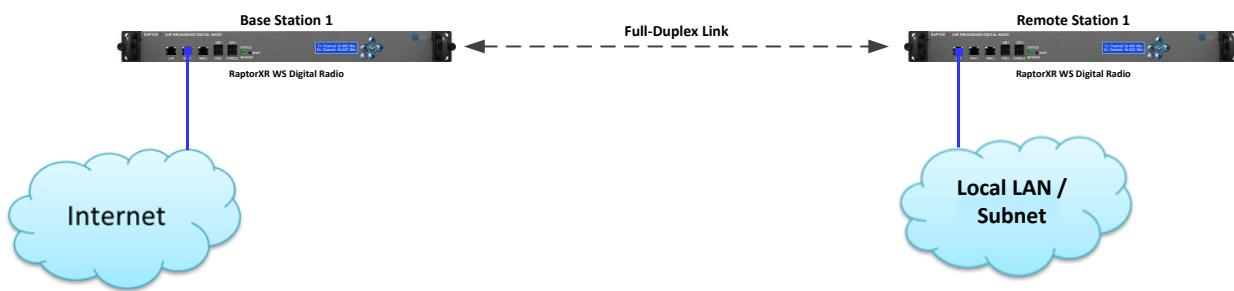
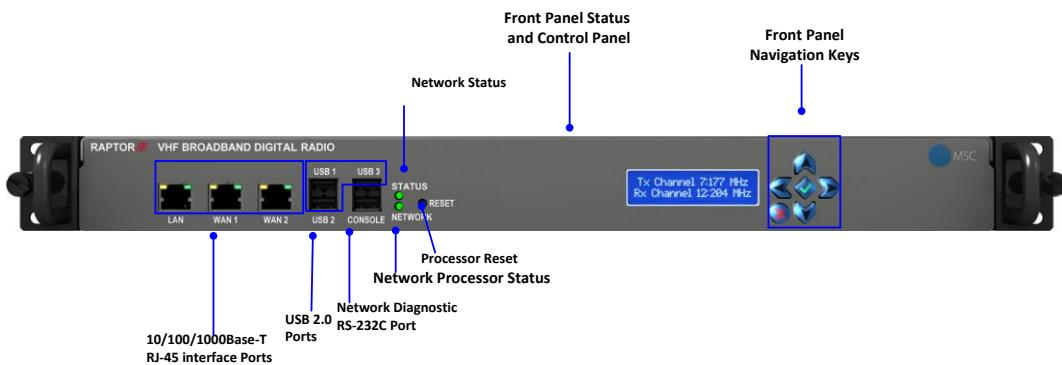

Figure 1.1: Basic RaptorXR Point-to-Point Backhaul Configuration
Figure 1.2 Single Link System (Front View) illustrating user indicators, controls and physical interfaces.
- The RaptorXR Single Link White Space Channel Configuration includes one (1) RaptorXR Network Shelf containing the local network processor and a single channel white space VHF/UHF broadband radio. Figure 1.1 below shows user indicators, controls and physical interfaces of the Single Channel System. Figure 1.2 shows the rear view of a Single Channel stack.